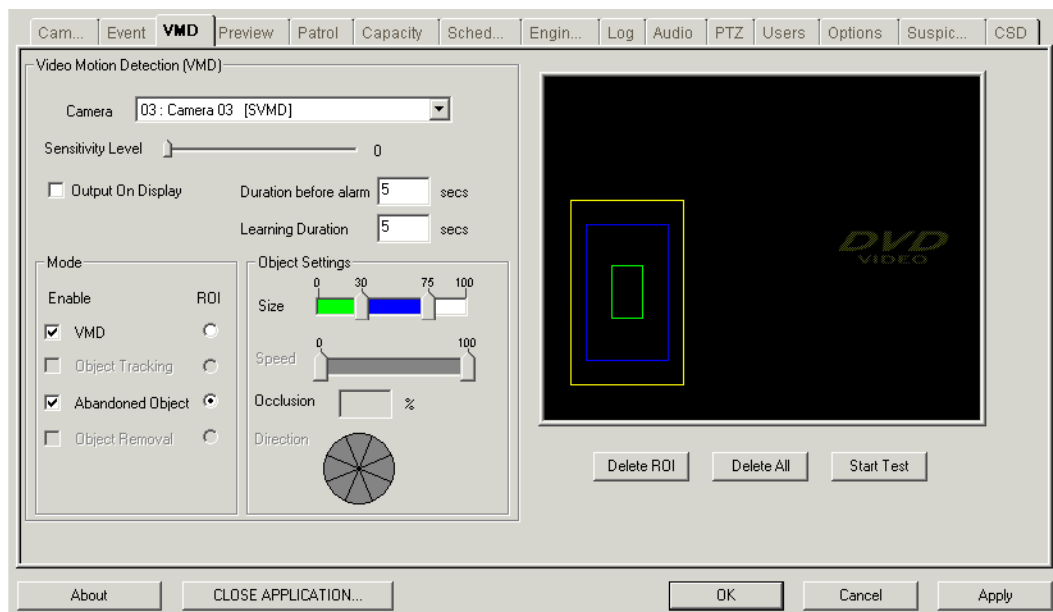

Figure 12-6: Drawing an Abandoned Object ROI for a Camera
1. Open the VMD menu of the Configuration Console as shown in Figure 12-6.
4. Decide whether you want to apply the VMD to the whole camera view or to a portion of it. As it is often not possible to predict where an object will be abandoned it is probably best to apply the configuration to the full camera view ROI. However, if there are areas where it is acceptable for objects to be deposited or stopped, for example the hard-shoulder of a motorway, you might choose to draw an ROI explicitly. Figure 12-6 above shows a camera view of an Airport concourse in which the default ROI is used to detect abandoned objects that are smaller than a specified size.